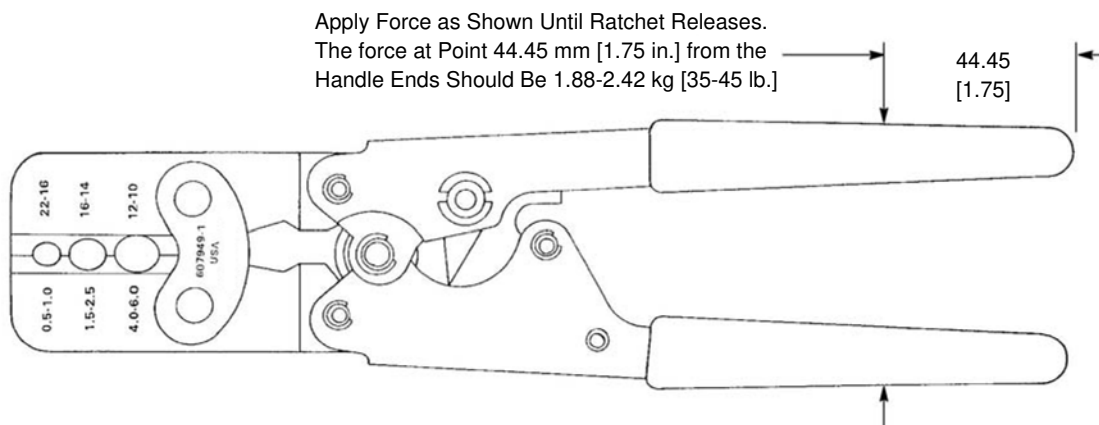

Figure 4
1. Apply force as shown until ratchet releases. The force at a point 44.45 mm [1.75 in.] from handle ends should be 35 to 45 pounds. See Figure 4.